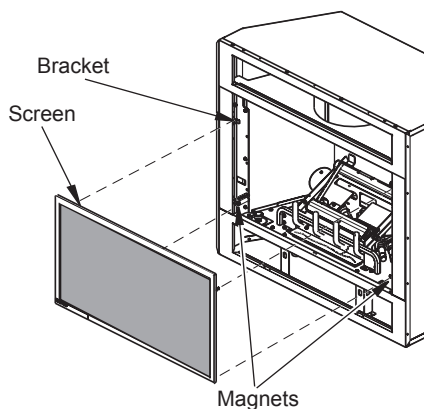

Figure 38 - Installing Fireplace Screen
4. Install fireplace screen by placing the screen brackets on top of the fireplace screen brackets as shown in Figure 38. Push the bottom of the screen inward against the magnetic catches to secure in place.